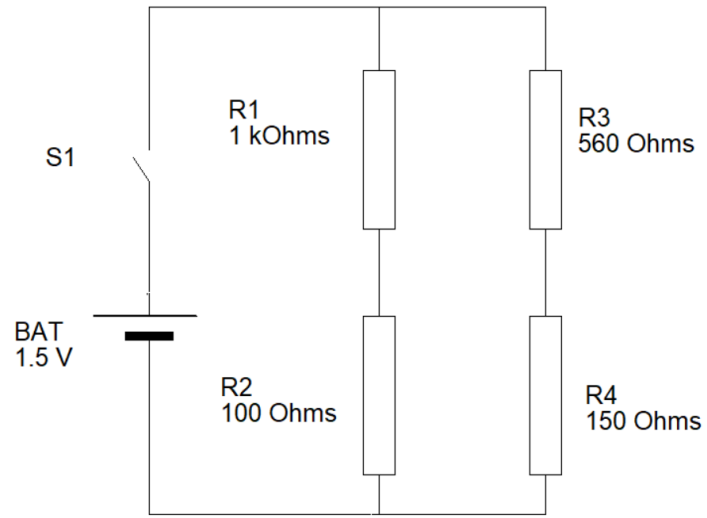

Figure 1: Series-parallel circuit
c) Figure 1 shows a series-parallel circuit.